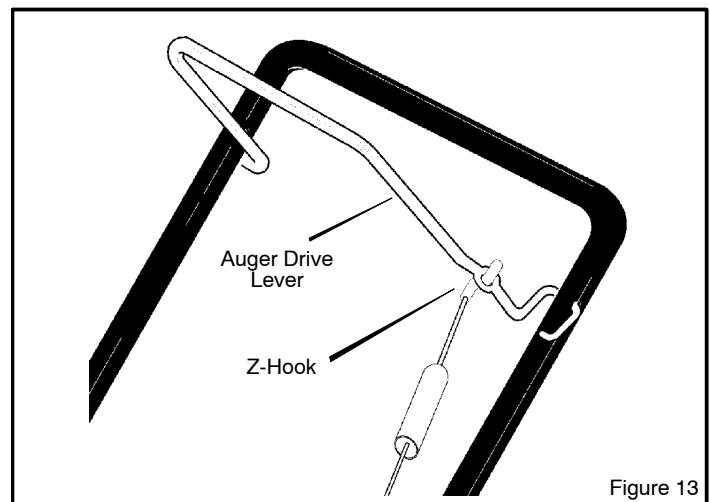

Figure 13
1. Remove the **"Z" hook** from the **auger drive lever** (Figure 13).